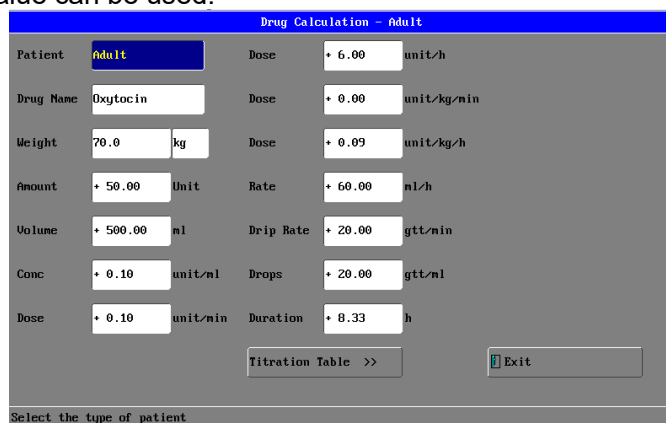

Figure 39: Window for Drug Calculation
1. Select "System Setup" --->"Drug Calculation" menu. The interface appears as shown in Figure 39: